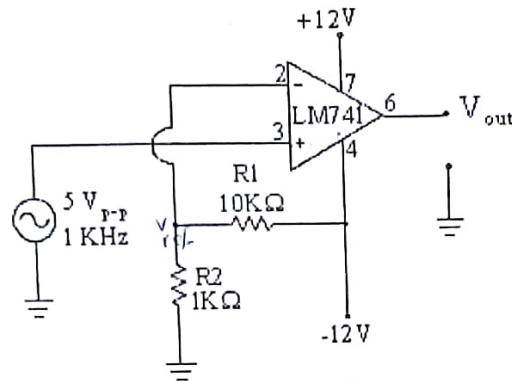

Fig.6: Comparator Circuits
1. Construct the circuit of Figure 6. Adjust the function generator to produce a $5\text{ V}_{\text{p-p}}$ sine wave at a frequency of 1 KHz . Measure and record the resistor values.